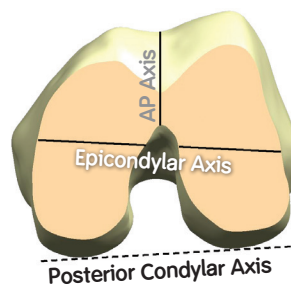

Figure 22
1. Optional: Mark the A/P and epicondylar axis on the femur (Figure 22).